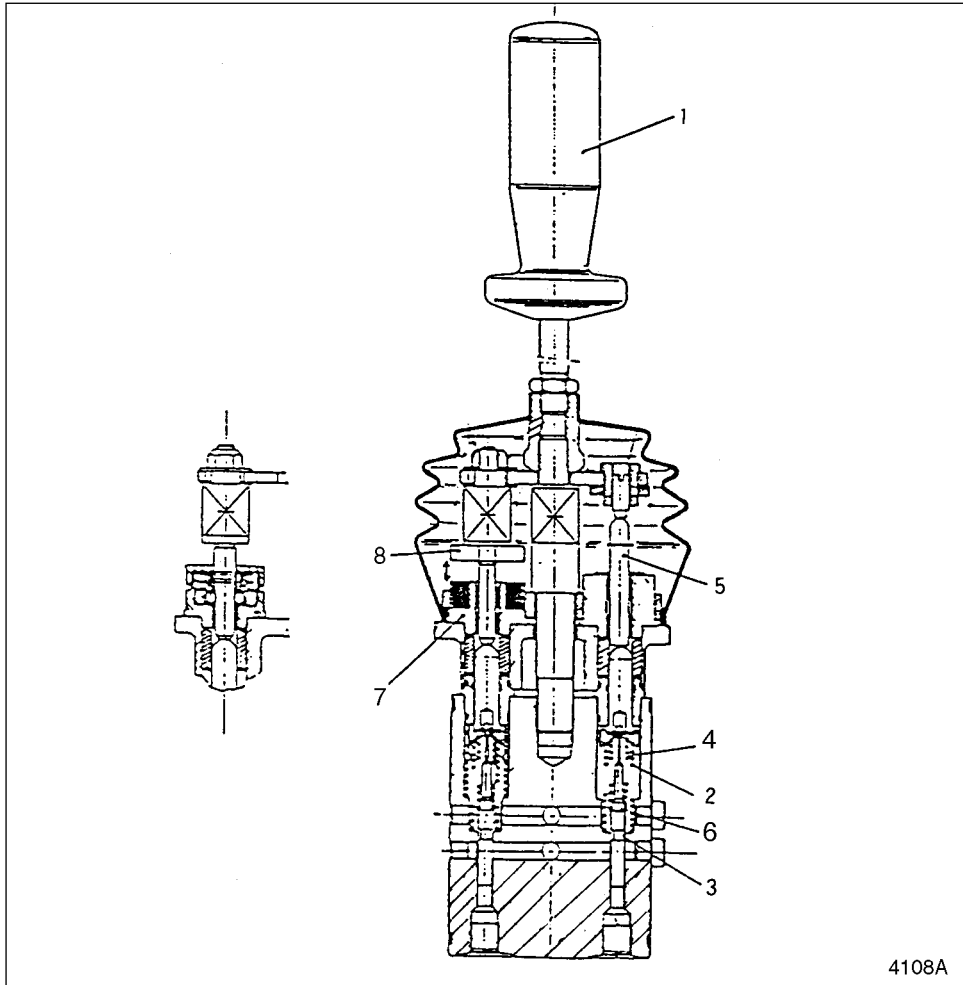

Figure 1
When no force is applied to lever (1, Figure 1), return spring (4) positions lever at "NEUTRAL" position. When lever is moved, plunger (5) is moved, which pushes down return spring (4). At this time, spool (2) is moved by spring (3). When spool (2) moves down, a groove (6) in spool (2) opens the pilot pressure line to the line that the lever controls. This allows pilot pressure to flow to the boom or bucket control valve, where pilot pressure operates the control valve. When the lever is completely moved in one direction, solenoid (7) energizes electromagnet (8) and holds the lever in the fully moved position.